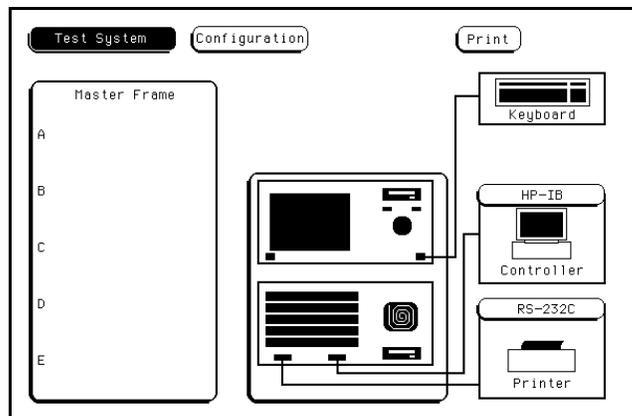

Figure 4-4. Test System Configuration
- After the Test System has been loaded from the disk, the Test Configuration will be displayed. See figure 4-4.